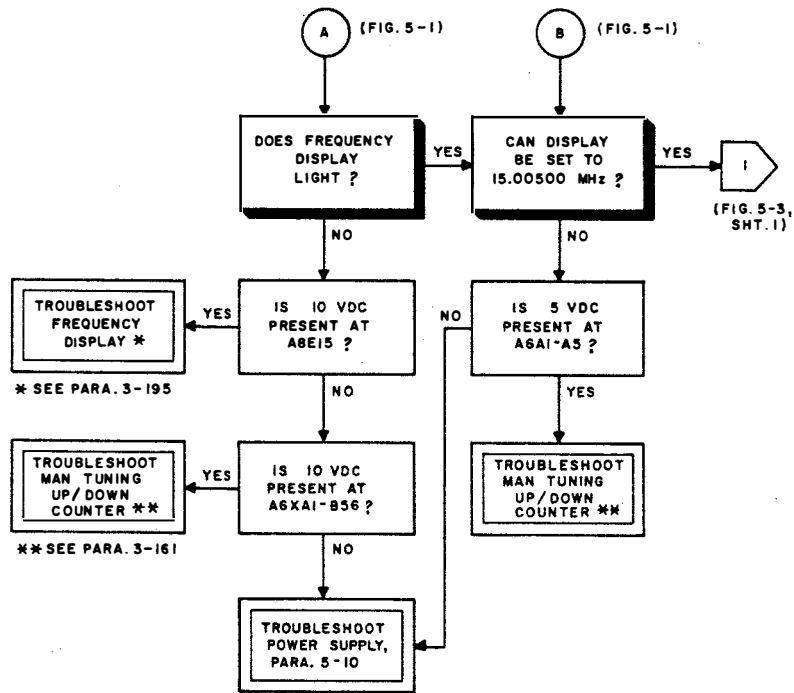

Figure 5-2. Troubleshooting Fault Logic Diagrams A and B
c. Troubleshoot functional area to isolate fault to the power supply or a module (figure 5-2 through 5-8).
5-8. TROUBLESHOOTING TO POWER SUPPLY OR MODULE. Figure 5-2 through 5-8 are the fault logic diagrams which contain procedures for isolating malfunctions to the power supply or a module. When a fault is isolated to the power supply or module, these diagrams indicate the next procedures to follow to further isolate the fault to the component level. Refer to table 5-1 for location of the pertinent functional descriptions. In addition, the items listed below are provided as aids in fault isolation.